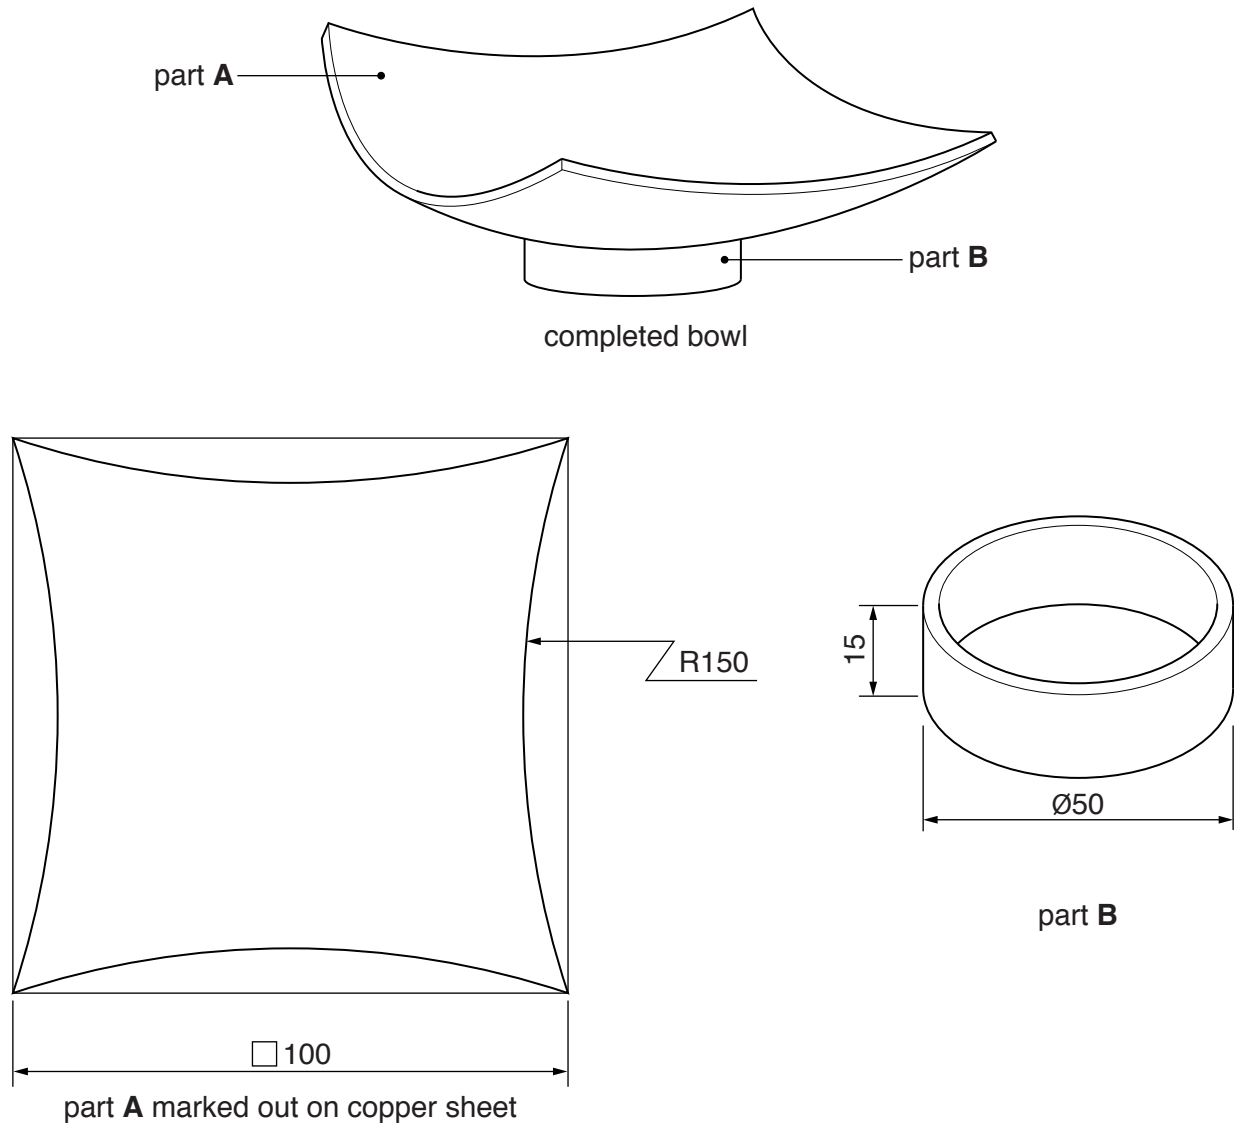

Fig. 1
- 1 Fig. 1 gives details about a bowl, made from sheet copper, which is to be produced in a school workshop.